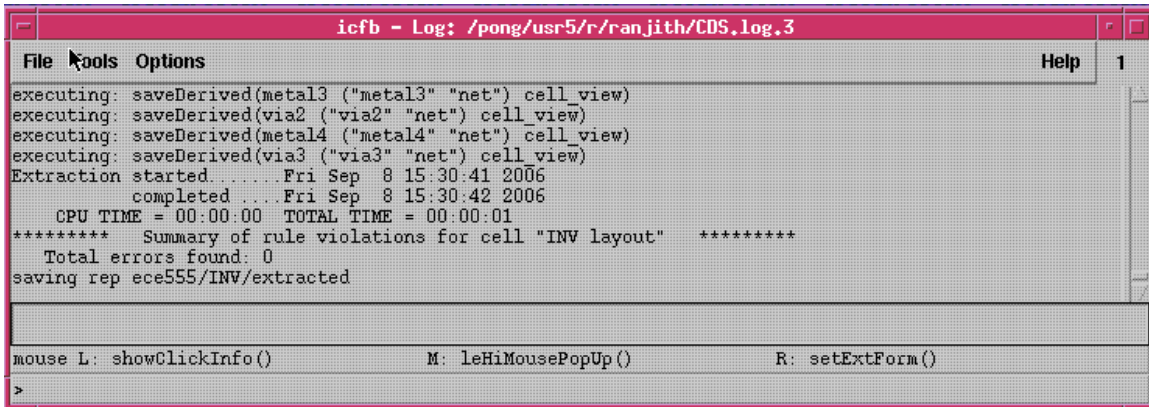

Fig.21. Extracted inverter with no error
- Click OK to run Extractor. The *CIW* should give no error like in Fig. 21.